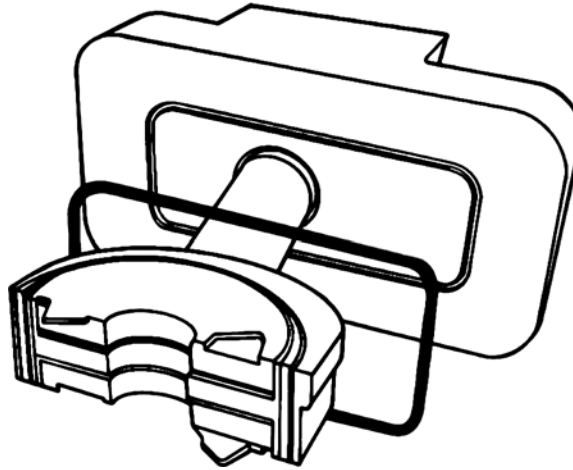

Figure 4-2. Remove Door Seal
- Remove the door seals (see Figure 4-2).